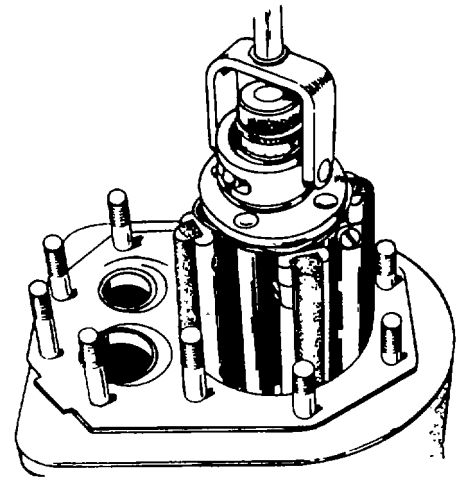

Figure 6-29. Honing Cylinder
a. A hone can be used to rebores a cylinder (figure 6-29). Remove stock to .002 inch (.005cm) undersize of finish bore with course hone (100 grit), then complete honing with finish hones (300 grit).